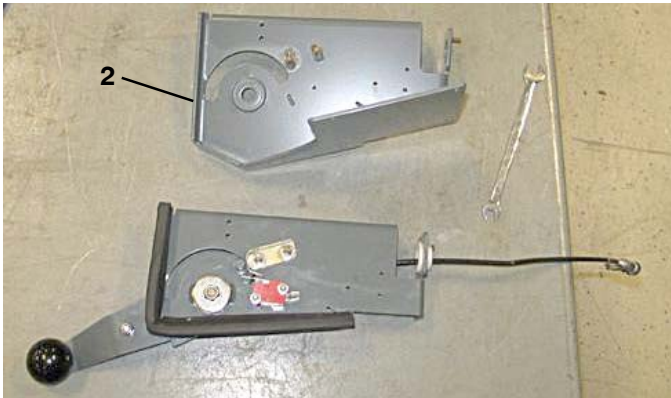

FIG. 2
1. Remove the squeegee lift lever assembly from the machine. Set all removed hardware aside (FIG. 2).
2. Remove all parts from the removed squeegee lift bracket and install them onto the new squeegee lift bracket (2). Discard the old squeegee lift bracket. (FIG. 2)